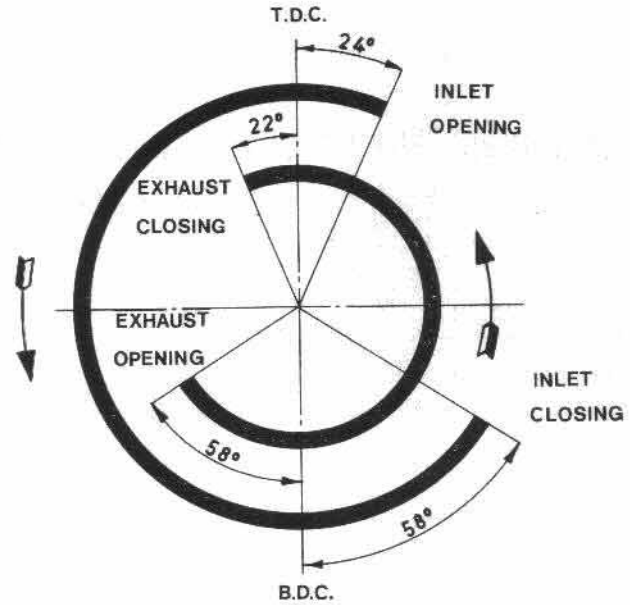
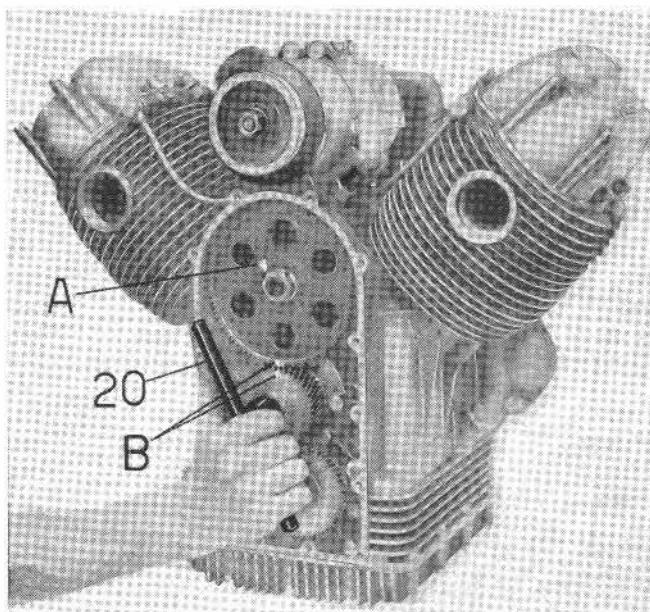

Fig. 51
Fig. 57
Timing data (rocker clearance for valve timing 0.5 mm. (.0196'')) are the following (see Fig. 51):
At the end of the above operation mark the two teeth of cam wheel, the tooth of distribution gear engaging same and also mark the slot in cam wheel in which the dowel is inserted (see A and B on Fig. 57). Now, checking opening and closing of inlet and exhaust valves by suitable degree plate, timing data should be as shown in diagram on Fig. 51.
using special wrench No. 12912900 (see 20 on Fig. 57) and check if marked tooth on distribution gear engages the two marked teeth of cam wheel.
- fit cam wheel, making sure that marked slot matches with dowel on camshaft and that the two marked teeth on cam wheel engage the marked tooth on distribution gear. To check this, use special tool No. 12912900 (see 20 on Fig. 57). To tighten nut securing cam wheel to camshaft use ring wrench and tool No. 12911801 (see 16 on Fig. 9).